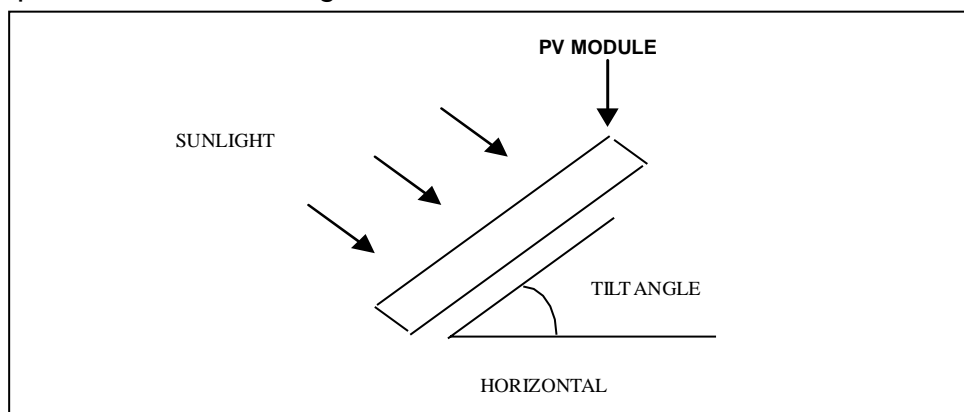

Fig. 7-1 Tilt angle
- According to IEC 61701, salt mist corrosion testing of photovoltaic (PV) modules, Risen Solar modules can be installed in corrosive salt areas within proximity of the ocean or sulfurous areas. The module must not be soaked in the water or be installed in the environment (i.e., fountain, spindrift, etc.) where the module would touch water (pure water or brine) for a long term. If the modules are placed in an environment of salt fog (i.e., marine environment) or sulfur (i.e., sulfur sources, volcanoes, etc.), there is a risk of corrosion.
- According to the test result of IEC62716:2013 “Ammonia corrosion testing of photovoltaic (PV) modules” for ammonia resistance, Risen Solar modules can be safely installed in ammonia-heavy environments, such as farm, meadow and so on. I
- Installation inclination refers to the Angle between the solar photovoltaic module and the ground plane, as shown in Figure 7-1.